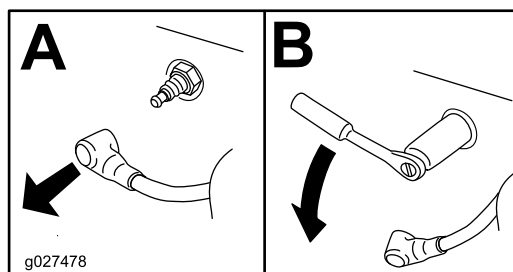

Figure 26
4. Remove the spark plug(s) as shown in Figure 26.